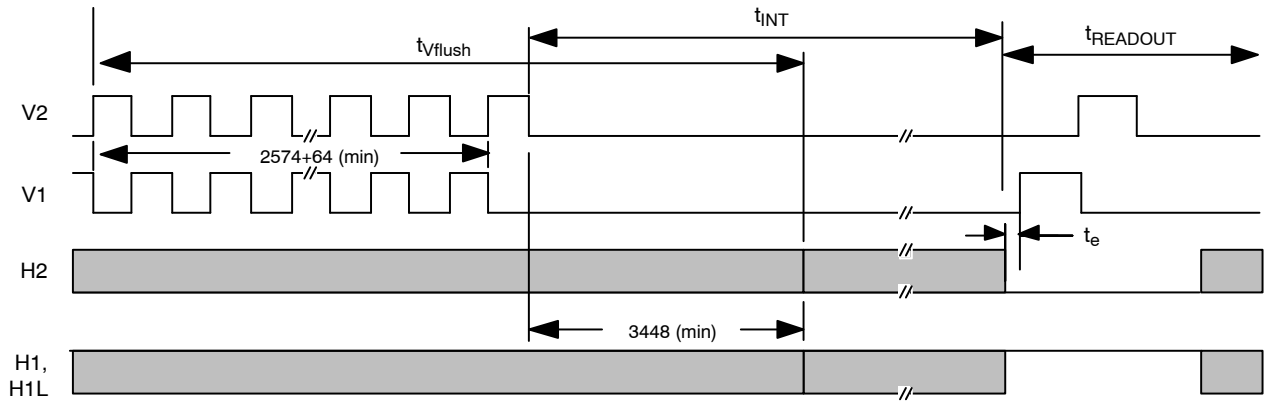

Figure 19. Power-Up Flush Cycle
- See Figure 19 for a detailed description.